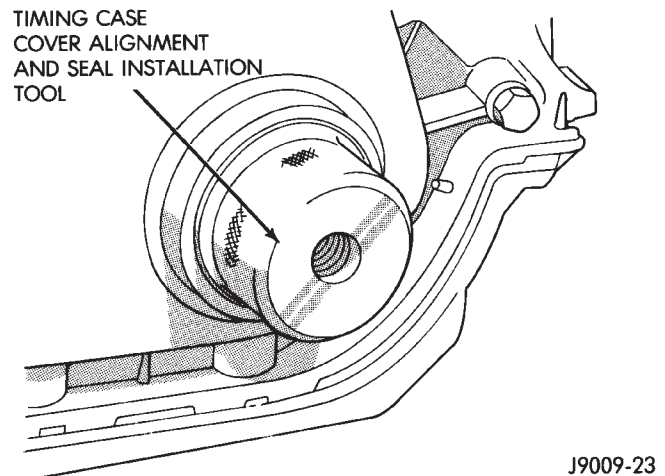

Fig. 40 Timing Case Cover Alignment and Seal Installation Tool 6139
- (1) Install a new crankshaft oil seal in the timing case cover. The open end of the seal should be toward the inside of the cover. Support the cover at the seal area while installing the seal. Force it into position with Seal Installation Tool 6139.
- (2) Position the gasket on the cylinder block.
- (3) Position the timing case cover on the oil pan gasket and the cylinder block. Make sure the tension spring and thrust pin are in place in the camshaft preload bolt.
- (4) Insert Timing Case Cover Alignment and Seal Installation Tool 6139 in the crankshaft opening in the cover (Fig. 40).